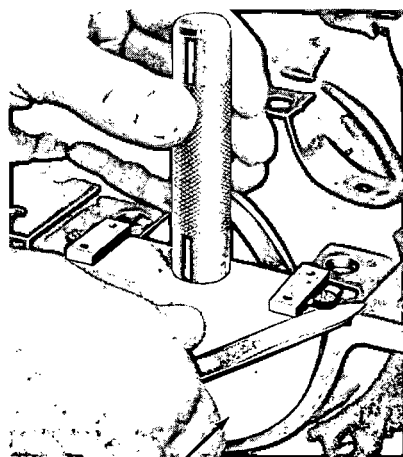

FIG. 69—Rear Oil Seal to Block Installation
9. Position the seal forming tool as shown in Fig. 69 and complete the seal installation. After installation, cut the ends of the seal flush.